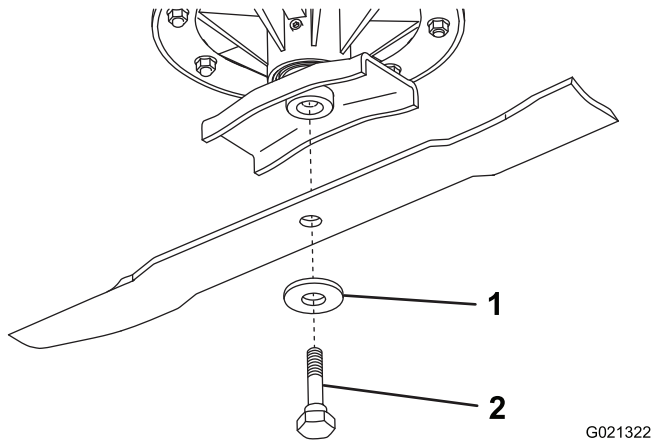

Figure 27
2. Grasp the end of the blade using a rag or thickly padded glove. Remove the special screw, belleville washer and blade from spindle assembly (Figure 27).